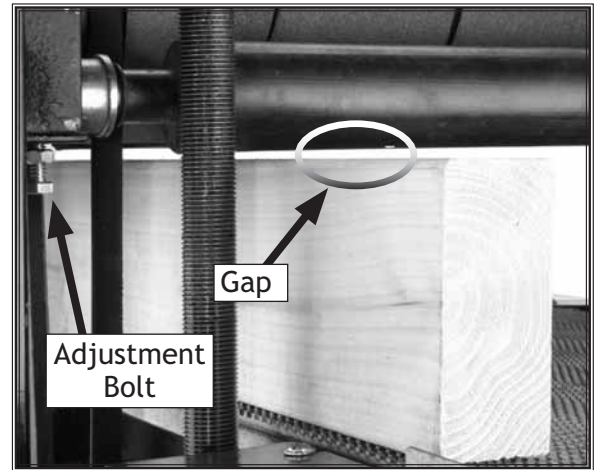
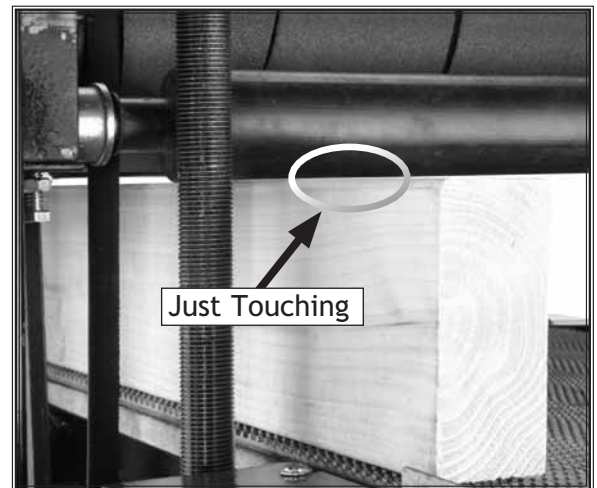

Figure 37. Gauge boards below rollers.
Figure 38. Gauge boards touching rollers.
6. Turn the adjustment bolt (Figure 37) as required so the roller just touches the gauge board (Figure 38).
8. Repeat Steps 6-7 with the second pressure roller. Each pressure roller should look like Figure 38 when properly adjusted.
9. Tighten the jam nuts on the adjustment bolts (Figure 37) to lock the adjustment.